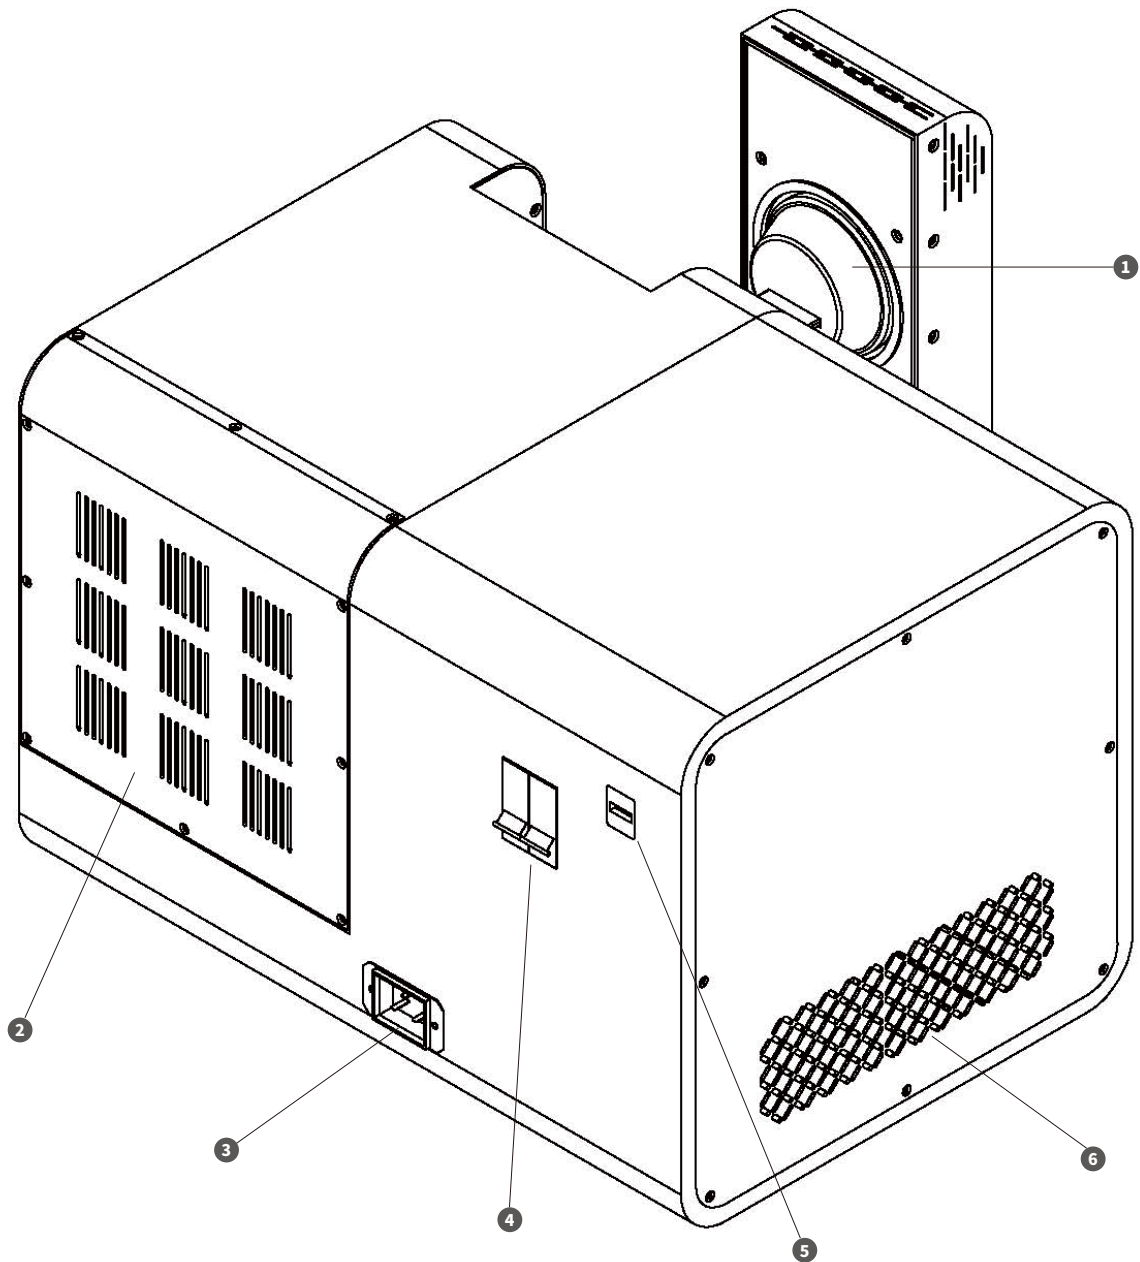

Fig.2 Machine overview, Back
To upgrade the system, first download the upgrade program and save it to the root directory of a USB flash drive. Insert the USB drive into the port shown in Figure 2 ⑤. Then, in the System Settings interface, tap "Update MCU". Wait for the upgrade to complete, and then restart the system. User Password: Set the operation password to ensure operational security.